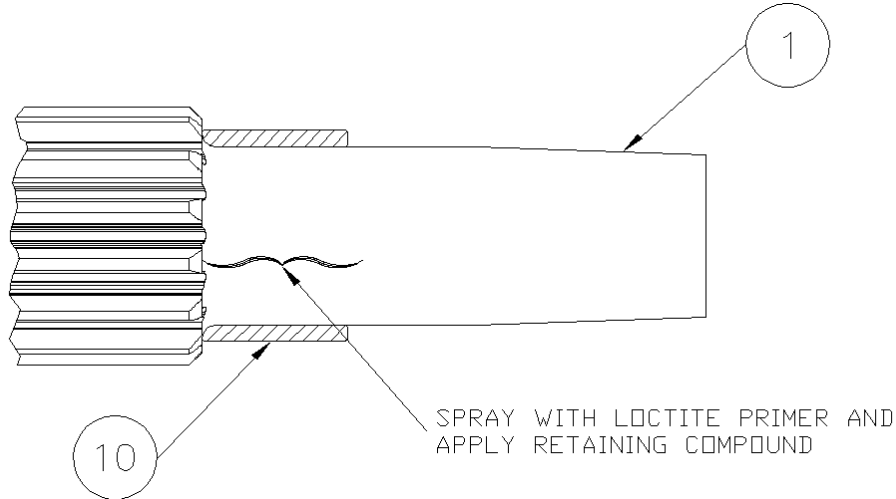

Figure C-3
3. Thoroughly clean the pinion shaft (1) (Figure C-3) and inner races (10) with a mild solvent and dry completely. Spray the inner race contact area (shown in Figure C-3) at each end of the pinion shaft and the inside diameter of the inner race thoroughly with LOCTITE 7649 N PRIMER. Apply LOCTITE RETAINING COMPOUND 609 around the pinion shaft at contact area and the inside diameter of the inner races. Slide the inner races (10) on the pinion shaft (radius end first as shown in Figure C-3) until the races seat against the gear teeth. After the races seat against the gear teeth, twist the races on the pinion 360° to spread the retaining compound evenly. Wipe off any excess retaining compound.